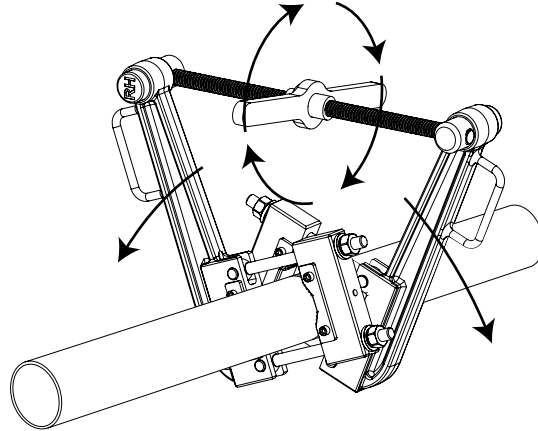

Fig. 12
5. In order to “Break” a joint free, follow the preceding steps in the same order, but turn the spinner handle in the opposite direction, so that the two components unthread (see Fig 12).